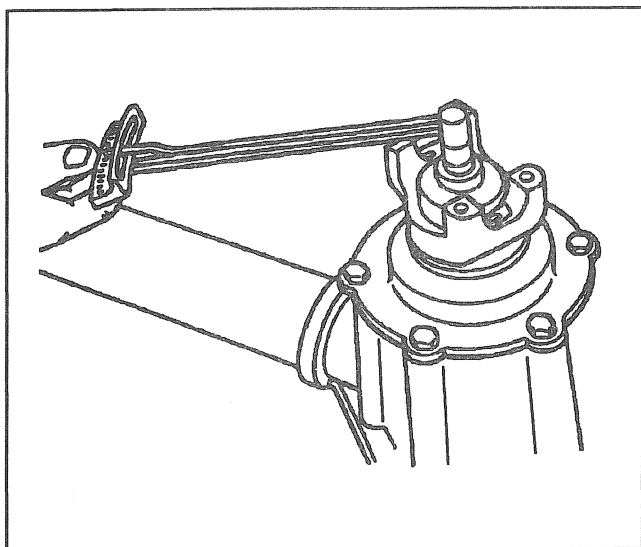

Figure 24—Checking Pinion Preload
- B. Remove J 8614-01. Using an inch pound torque wrench, check the pinion preload by rotating the pinion with the wrench (Figure 24). Preload should be at or below 2.8 to 5.1 N.m (25 to 45 lb. in.) on new bearings, or 1.0 to 1.4 N.m (8 to 12 lb. in.) for used bearings.